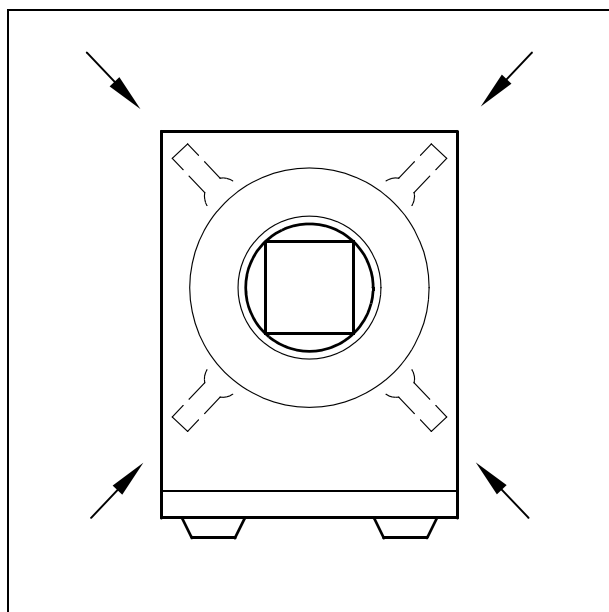
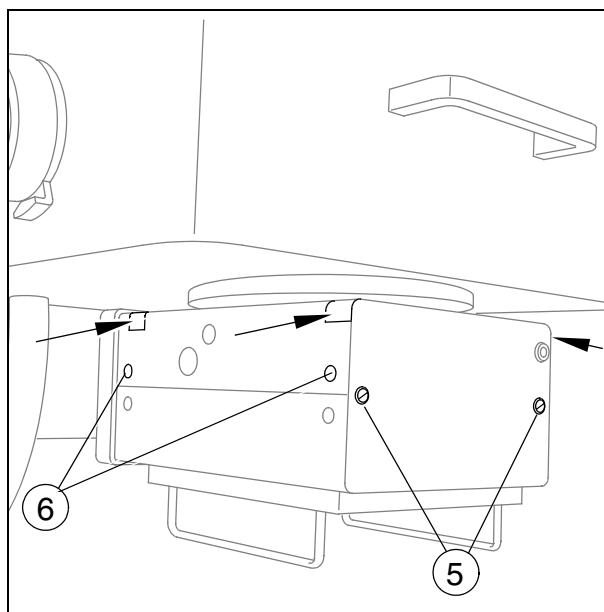

Fig. 2
Fig. 3
- Loosen two screws (5/Fig. 3) and remove the rear panel.
- Remove the two screws on both sides (6/Fig. 3) of the upper cover.
- Remove the collimator after loosening the four Allen screws (arrows /Fig. 2/ Fig. 3).
- Attach the new collimator, fasten it with the four screws (arrows /Fig. 2/ Fig. 3) and center it.